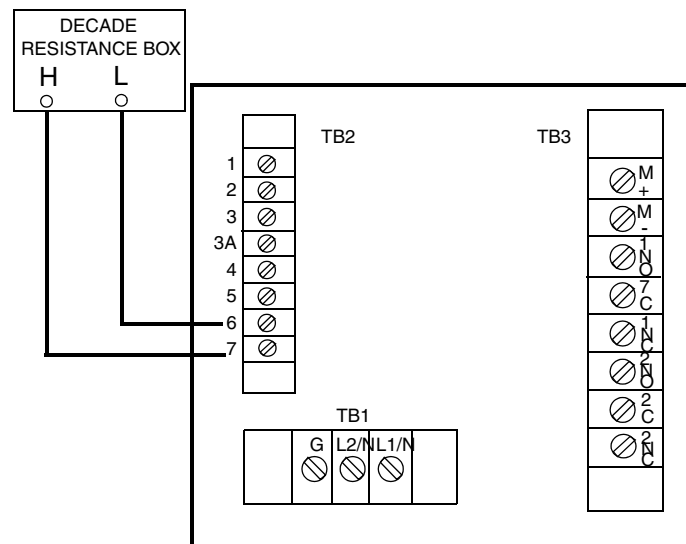

Figure 18. RTD Temperature Simulation (Plastic Enclosure Shown)
2. Connect the 100 Ω precision resistor between terminals 6 and 7. See Figure 18.